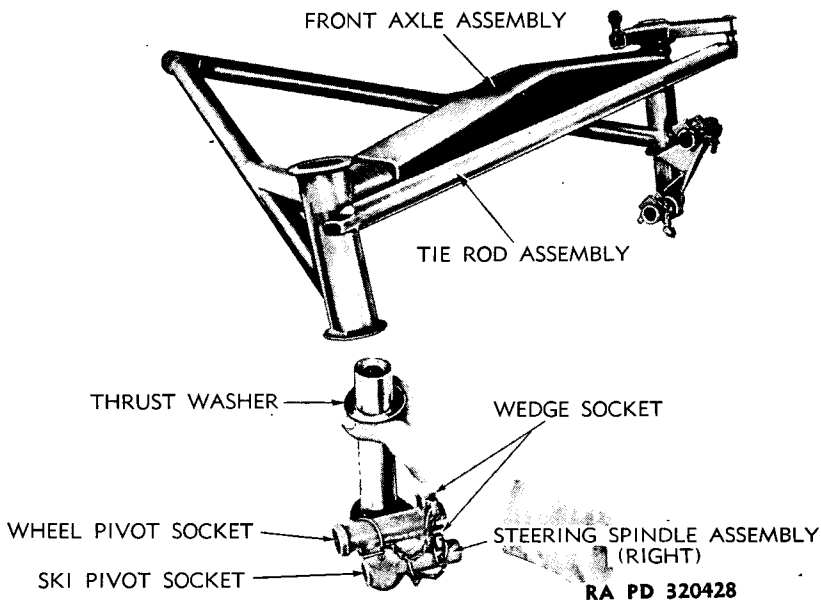

Figure 18 — Right Steering Spindle Removed
b. Remove Steering Spindle Assembly. Lift up front axle assembly until steering spindle assembly can be removed from bottom (fig. 18). Remove thrust washer from spindle. Unhook and remove pivot wedge chains from spindle. Left spindle will be removed in same manner.
a. Install Steering Spindles. Install steering spindle thrust washer over shanks of steering spindles. Hold a steering spindle in hand with shank up, wheel pivot socket of spindle toward operator, and wedge socket to right; this will denote the right-hand spindle (fig. 18). Install spindle up through right end of axle. The left spindle can be identified in same manner, but the wedge sockets will be at left of person holding spindle.